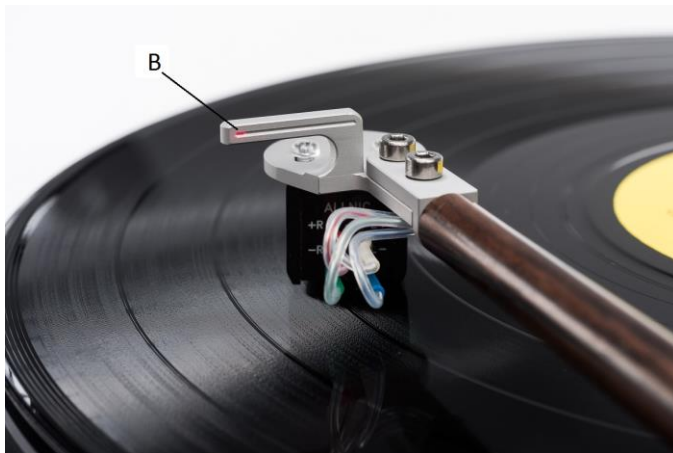

Figure 17
- c) Adjust azimuth (as describe in section 6 *Azimuth adjustment*) that the laser beam was in position B (Figure 17)